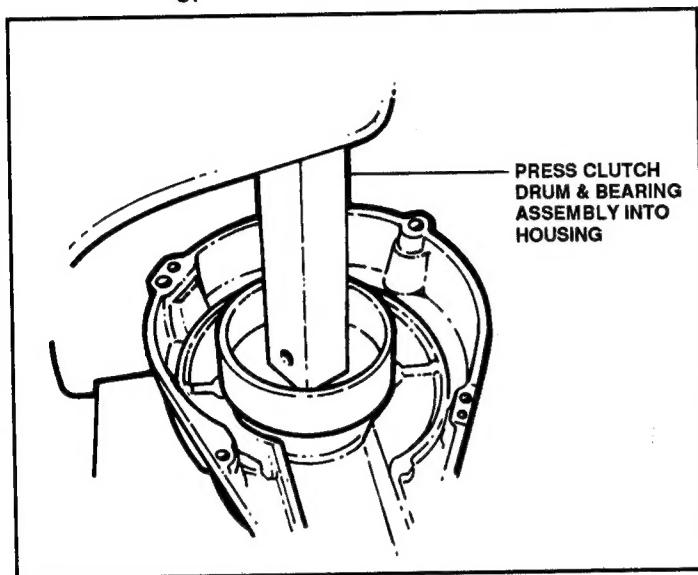

FIGURE 5
6. Reinstall clutch drum assembly by first reinserting washer into fan housing, rounded portion of washer facing in. Lightly coat the housing where the bearing will be inserted with clean 30 - weight oil. Pressing on the center of the drum, press the assembly in until it seats. Be certain that assembly is not uneven when applying press force. See Figure 5.